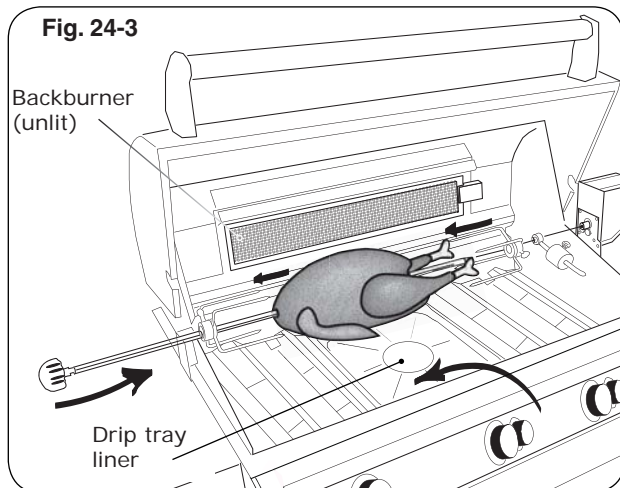

Fig. 24-3
4. Slide the left meat holder onto the rod (and tighten), the meat onto the rod and into the holder, followed by the right meat holder onto the rod and into the meat as shown in Fig. 24-3. Tighten the right meat holder. Be sure the meat is centered and balanced as well as possible.
9. To keep drippings off the burners and simplify cleanup, place Fire Magic® drip tray liners under the meat, if desired (Fig. 24-3).